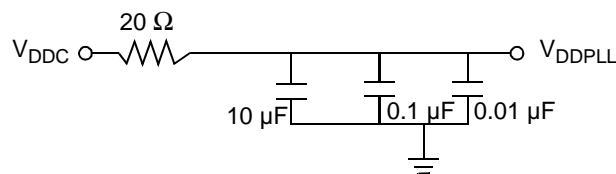

Figure 31. PLL Power Supply Filter Circuits
- *PLL power supply filtering.* The MSC7119 V_{DDPLL} power signal provides power to the clock generation PLL. To ensure stability of the internal clock, the power supplied to this pin should be filtered with capacitors that have low and high frequency filtering characteristics. V_{DDPLL} can be connected to V_{DDC} through a 20Ω resistor. V_{SSPLL} can be tied directly to the GND plane. A circuit similar to the one shown in **Figure 31** is recommended. The PLL loop filter should be placed as closely as possible to the V_{DDPLL} pin (which are located on the outside edge of the silicon package) to minimize noise coupled from nearby circuits. The $0.01 \mu\text{F}$ capacitor should be closest to V_{DDPLL} , followed by the $0.1 \mu\text{F}$ capacitor, the $10 \mu\text{F}$ capacitor, and finally the $20\text{-}\Omega$ resistor to V_{DDC} . These traces should be kept short.